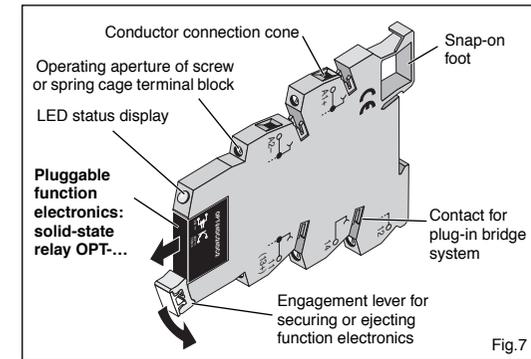

Fig.7
4.1. Solid-State Relay (Fig.7/8)